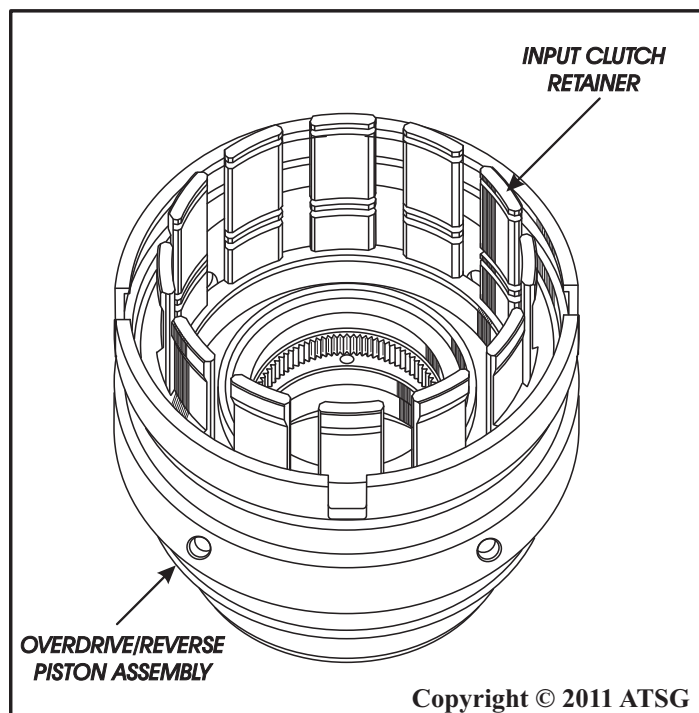

Figure 98
14. Install the input clutch retainer into overdrive/reverse piston by rotating into position, as shown in Figure 98.